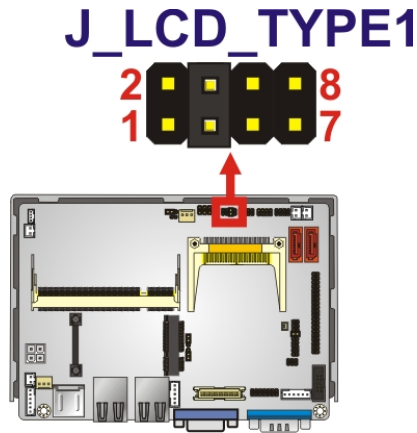

Figure 4-6: LVDS Resolution Selection Jumper Location
- Jumper Location:** See Figure 4-6